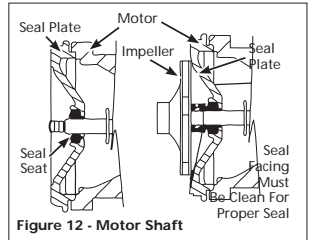

Figure 12 - Motor Shaft
- Position impeller on shaft and tighten securely (Figure 12).